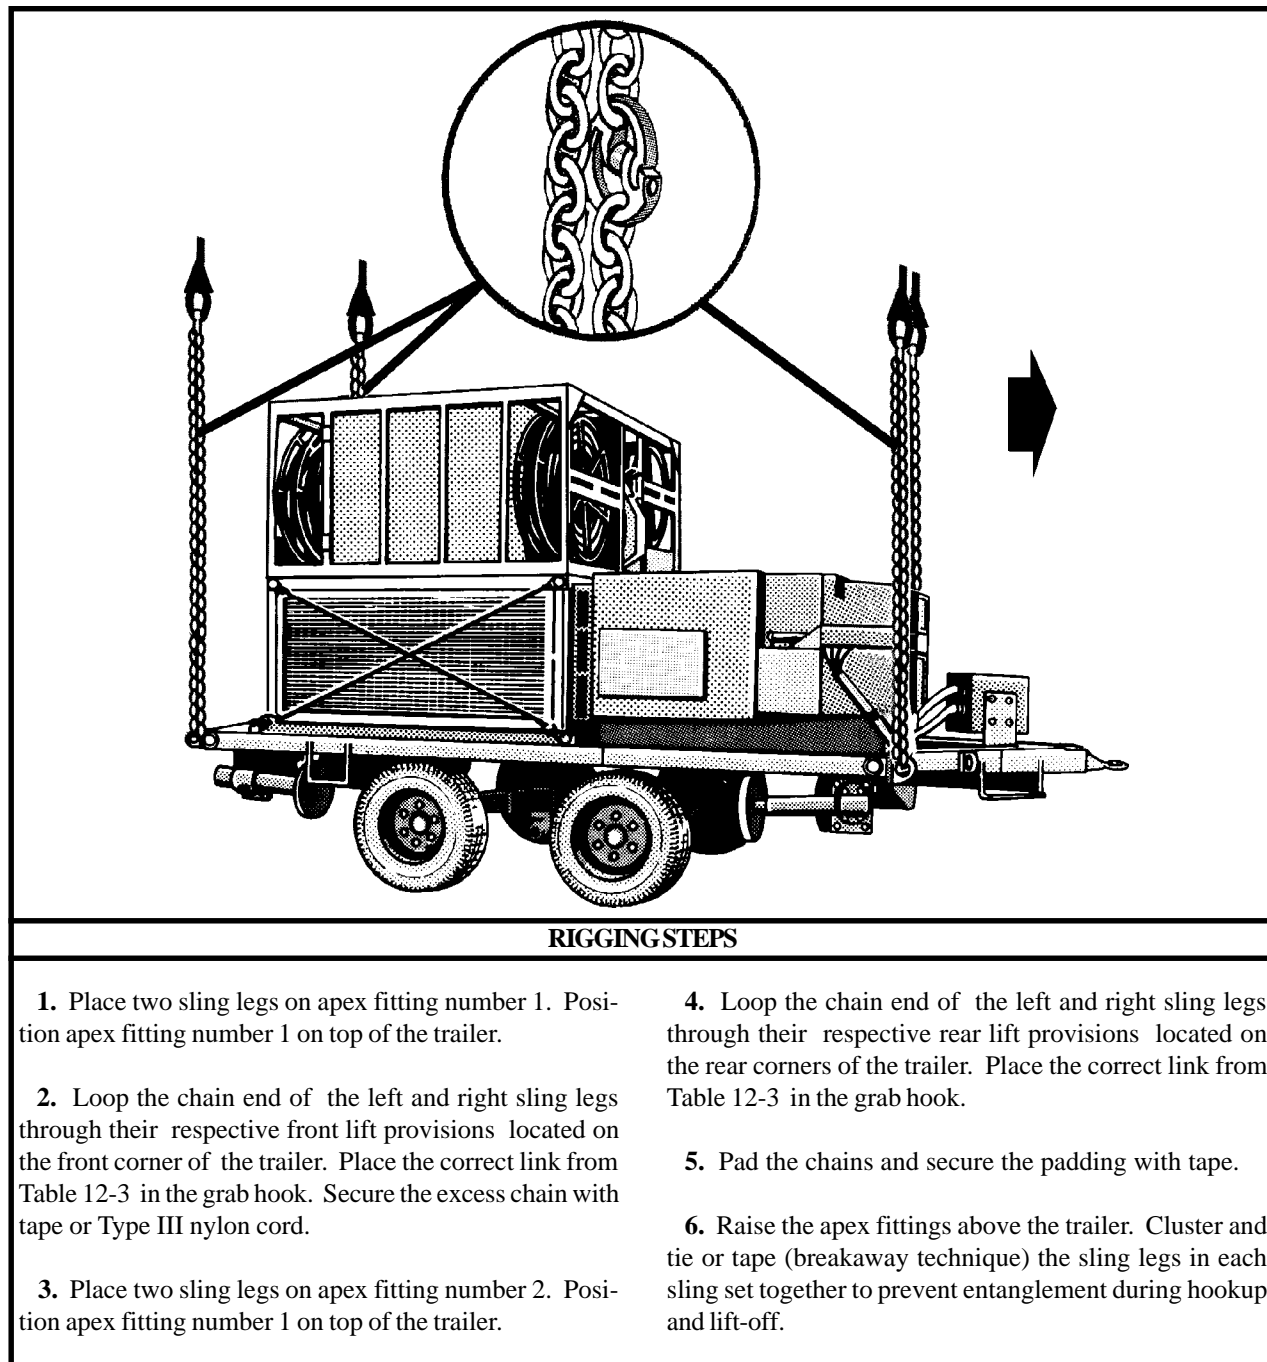

Figure 12-3. Digital Group Multiplexer, Digital Antenna Mast Program, Pallet Trailer
(2) **Rigging.** Rig the load according to the steps in Figure 12-3.